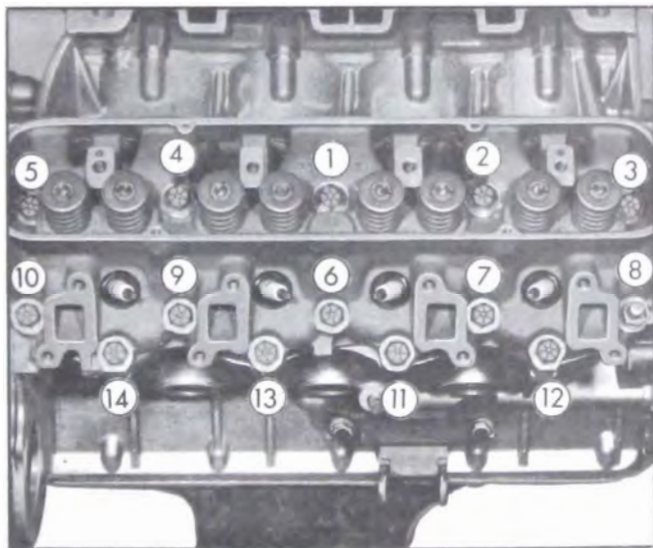
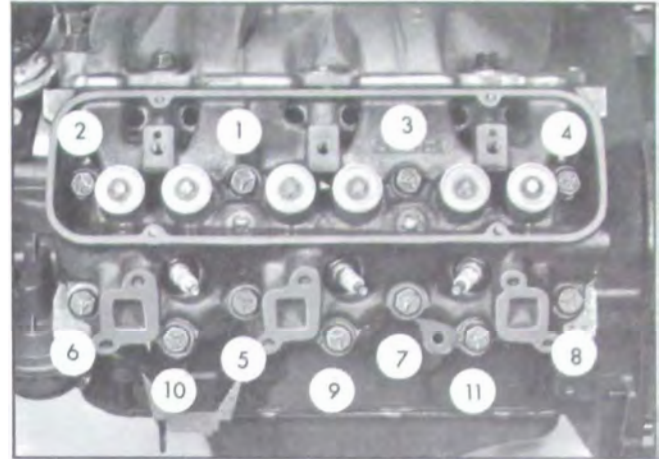

Figure 2-30—V-8 Cylinder Head Bolt Tightening Sequence (Right Shown)
Figure 2-31—V-6 Cylinder Head Bolt Tightening Sequence (Left Shown)
6. Tighten the head bolts a little at a time about three times around in the sequence shown in Figure 2-30 on V-8's and Figure 2-31 on V-6's, then torque the bolts in the same sequence to 50-55 ft. lbs. torque on V-8's and 65-70 ft. lbs. on V-6's.